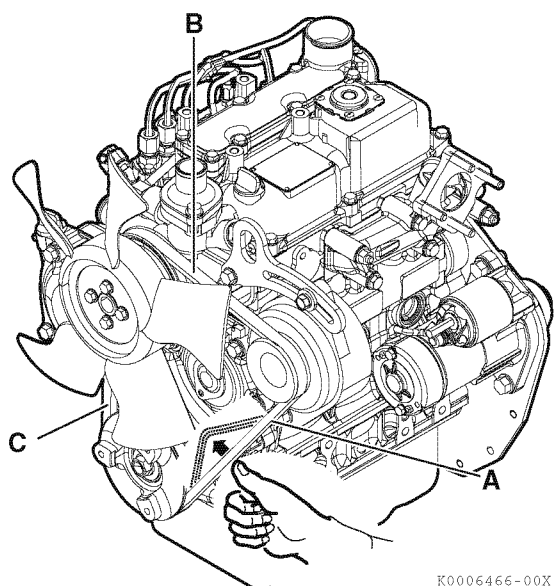

Figure 5-3
There are three positions to check for V-belt tension (**Figure 5-3, (A), (B) and (C)**). You can check the tension at whichever position is the most accessible. The proper deflection of a used V-belt at each position is: